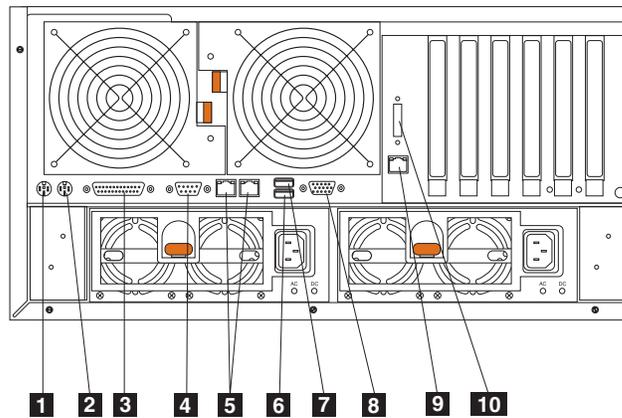
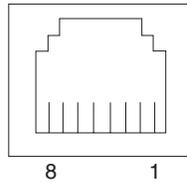

Figure 15. Input and output connector ports for the NAS 300G engine
Figure 22. Integrated Gigabit Ethernet controller port
Figure 15 shows the input/output connectors (ports) on the rear of the engine.
*Ethernet connector:* There is an RJ-45 Ethernet connector on the back of the engine. See Figure 15 on page 73 for the location of this connector. Figure 22 shows the pin-number assignments for the RJ-45 connector. These assignments apply to 10BASE-T, 100BASE-TX, and 1000BASE-T devices.